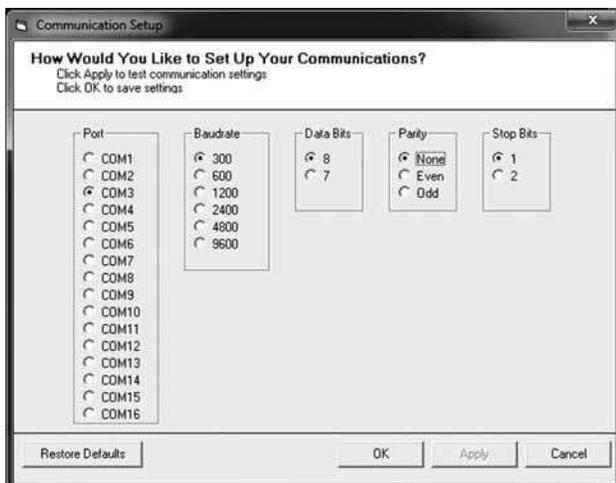

FIGURE 49
7. **Communication Setup:** Clicking the Communication Setup button opens the current communication setup window. These settings should not be changed unless instructed by TFPP Technical Services. Figure 49 shows the standard settings for the module. **Note:** COM Port settings may vary from PC to PC.